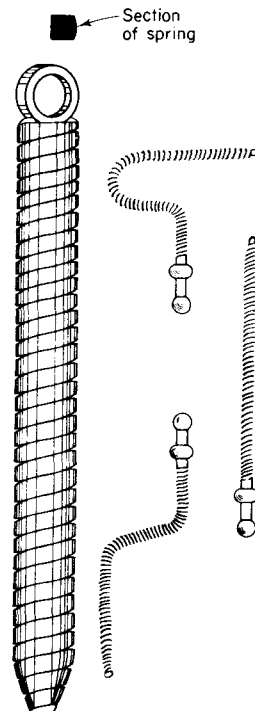

Fig. 4.167 Polished steel springs for bending light gauge copper tubes
- (1) lead;
- (2) pitch or resin;
- (3) sand;
- (4) steel springs (Fig. 4.167).